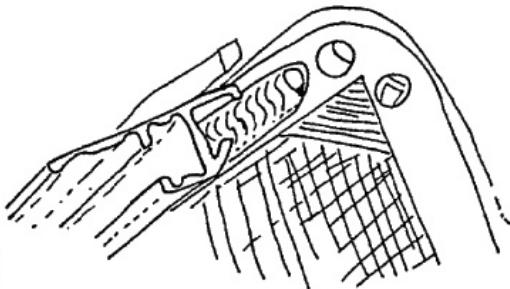

FIGURE 14
STEP 13: Remove the left front corner piece from the front end rail (THE ONE WITHOUT TAPE ATTACHED). Reroll the cover to expose the front and notice the dowel rod sewn into the pocket on the underneath side. Now slide one snap into the channel then the rod FIGURE 14. This keeps the front end of cover attached to the rail system. Now replace the snap and corner and tighten the screw. Now remove the paper backing from the foam at the corner and press it in place. Now insert the front end rail corners into the side rails and tighten.